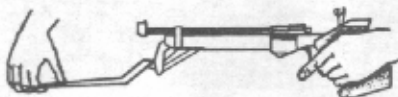

Fig. 1: IZH-46
A) Grasp the pistol by the pistol grip with your dominate hand. Keep your fingers off the trigger and away from the breech / bolt. With the barrel pointing in a safe direction, pull the cocking handle forward until you see the bolt assembly pop up to a 90 degree angle from the firing plane or you feel a light click (Warning do not over travel or force the cocking handle or you could damage your pistol). At this point the bolt should be locked up and the air bypass should be closed (See Figure 1). Do not pull past the click sound / feel and **never use excessive force when cocking the air pistol.**